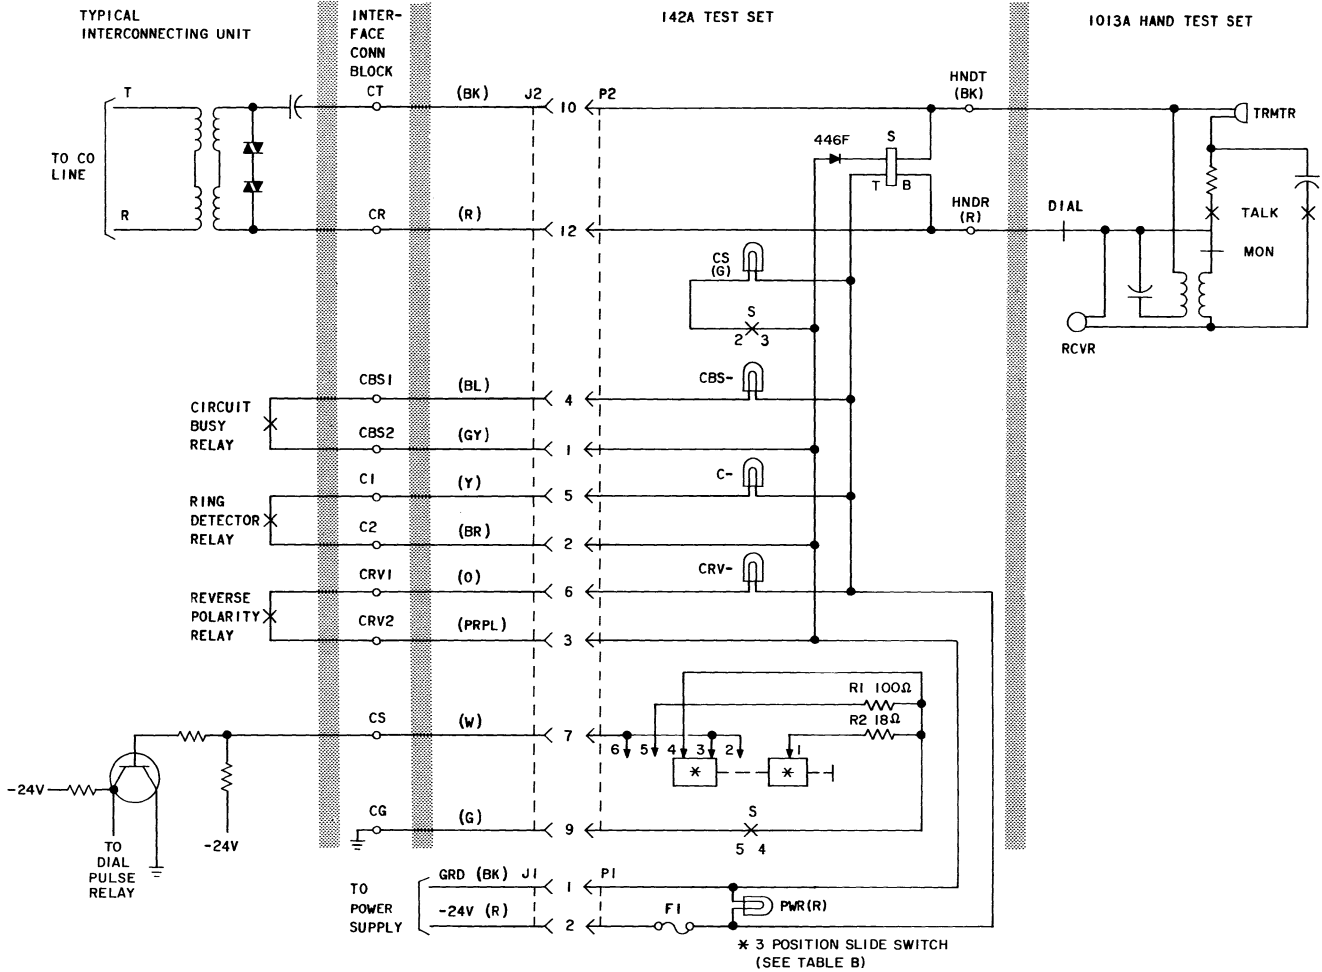

Fig. 2—142A Test Set, Connections
**4.01** Figure 2 provides a schematic of the 142A test set and the setup required to test a typical IU. For a complete schematic of the IU and testing procedures, refer to the section for the specific connecting arrangement.